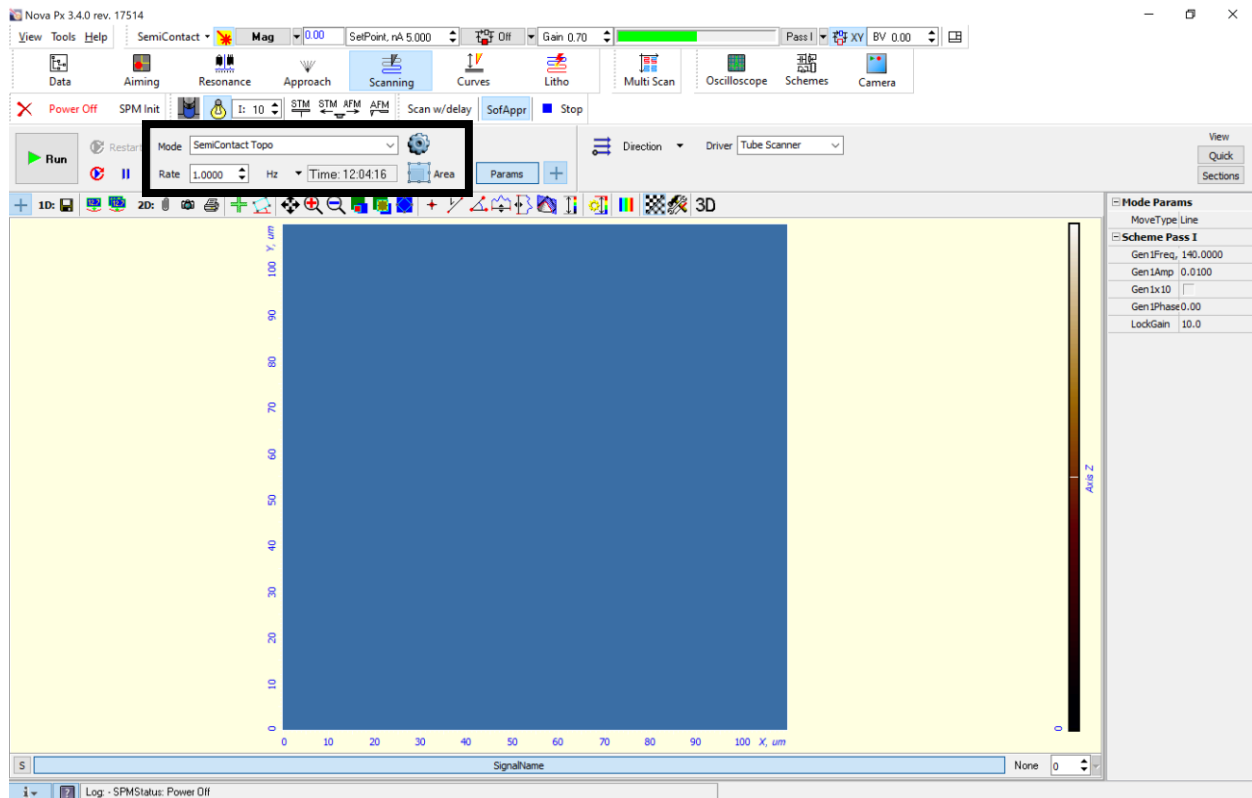

Figure 19: Scanning main menu
- Click the “Area” button in the top center of the scanning menu (Figure 19).
- Select the desired scan mode “SemiContact Topo” is general used for topography maps in semi contact or tapping mode. (Figure 19). To learn more about the other scanning modes consult the manufacture’s manual located in the lab.